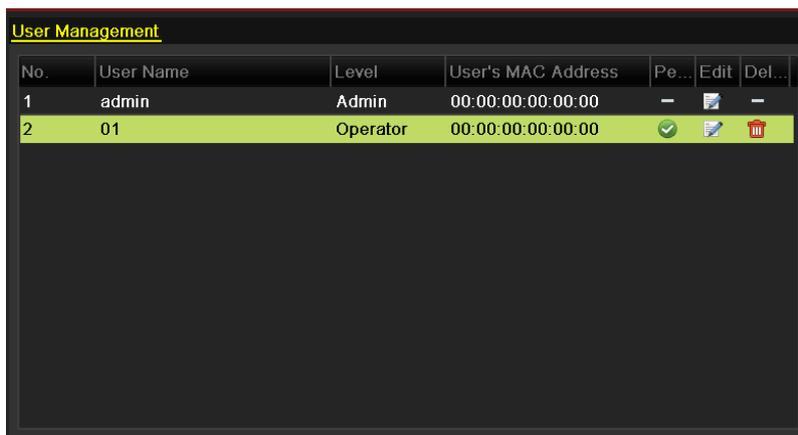

Figure 14. 9 User List
2. Select the user to be deleted from the list, as shown in Figure 14. 9.
2. Select the user to be edited from the list, as shown in Figure 14. 9.